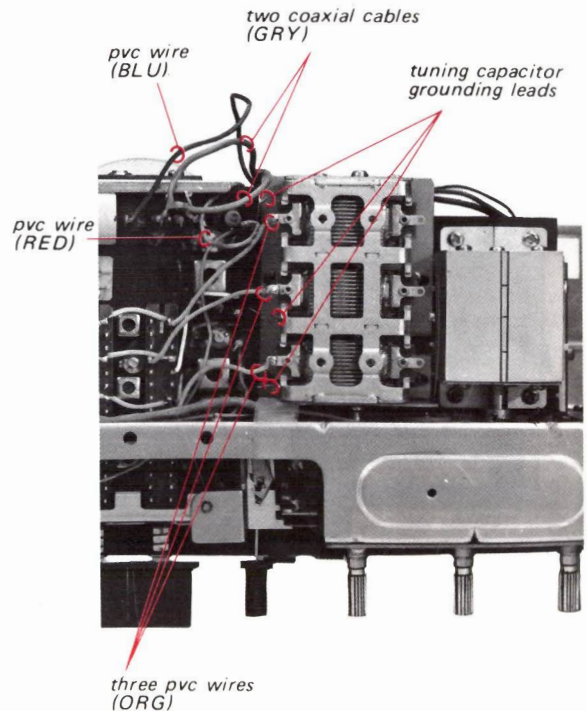

Fig. 2-8
2. Unsolder the ten lead wires shown in Fig. 2-8.
1. Unsolder the same ten lead wires in Fig. 2-8 as sw tuner removal.